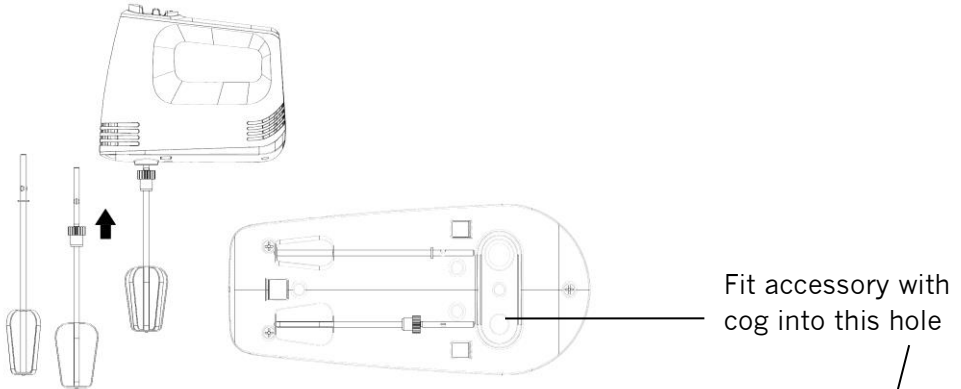

Fig. 1
1. To fit the mixing accessories, insert the accessory with the cog into the smaller socket (see below) on the underside of the motor housing (figs. 1 & 2) and push firmly. Insert the second accessory into the remaining socket and similarly push firmly to engage.
3. Fit the mixing attachments into the underside of the mixer (figs. 1 & 2) and then fit the motor housing into the mixer support as shown (figs.5 & 6). Engage the front of the mixer (part with mixing accessories) before pressing down on the rear. A click will be heard when the housing is locked into position.